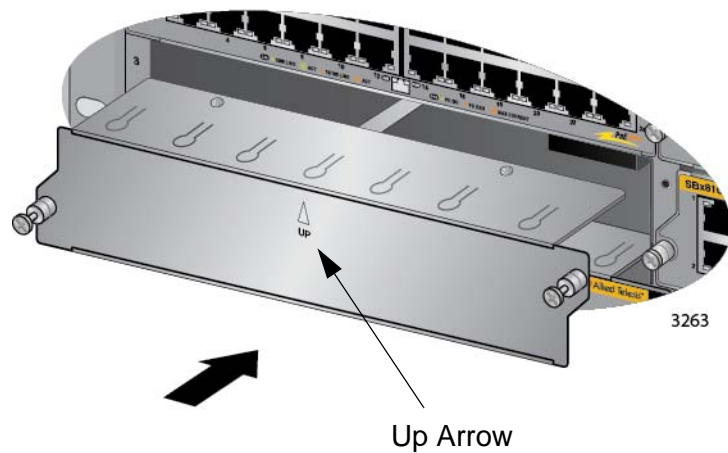

Figure 91. Installing a Blank Slot Cover
1. Position a blank slot cover over an unused slot, as shown in Figure 91. The up arrow on the panel must be pointing up.